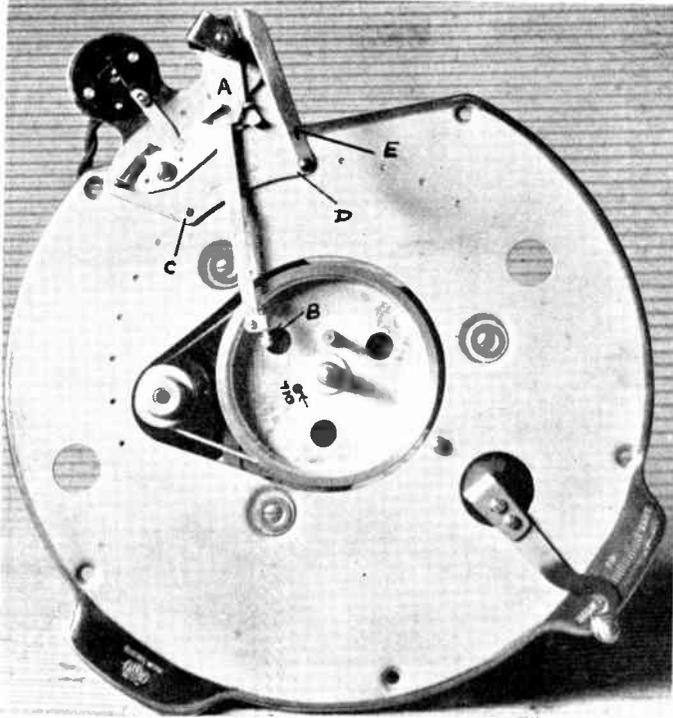
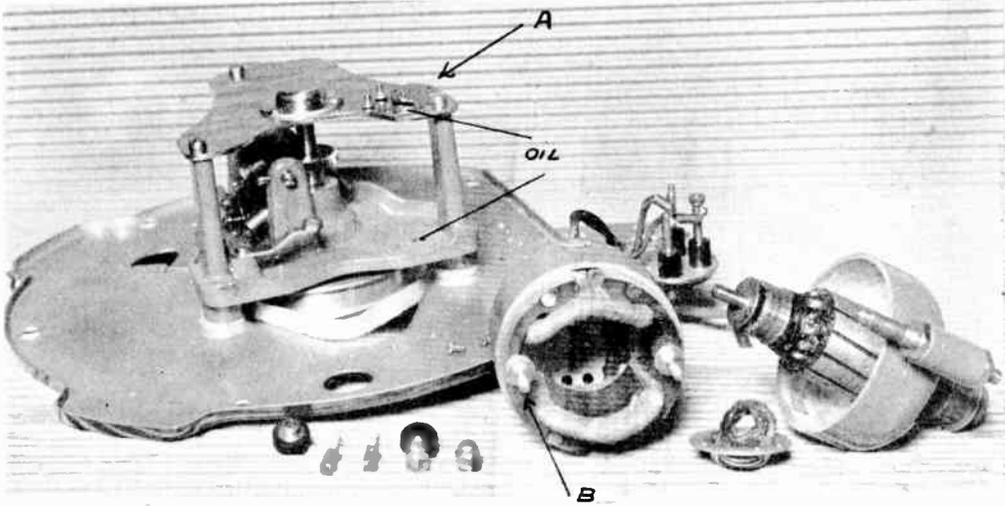

Fig. 9.—SETTING THE AUTO-STOP OF A GARRARD MOTOR TYPE E.D.
Fig. 10.—How to TAKE THE GARRARD Universal Motor Type E.D. APART FOR CLEANING THE COMMUTATOR, ETC.
(1) Remove the auto switch from the base by taking out screws C and D, in Fig. 9.
(2) Decide the position it is to be screwed back (any of the holes may be used). Bore a hole $1\frac{1}{8}$ in. diameter to take switch legs.
(3) Refix auto switch to base.
(4) Adjust auto stop: move operating lever to the right and motor should start.
- (1) Remove screws A in Fig. 10.
- (2) Take out brushes.
- (3) Unscrew the two hex nuts for clamping bolt B.
- (4) Carefully draw off half the body.
- (5) If necessary clean commutator with fine glass paper taking care to remove all dust.
- (6) Repack bearing cups with grease.
- (7) After reassembly of motor, when returning to frame, take care that the belt is on the pulley, and the tension spring is in the correct position and the motor rocks freely.
- (8) Should the belt slip extra tension can be obtained by adjusting the nut on the rod B, Fig. 9, which holds the spring to the frame.
- (9) Should the belt become oily place in chalk for a few hours.